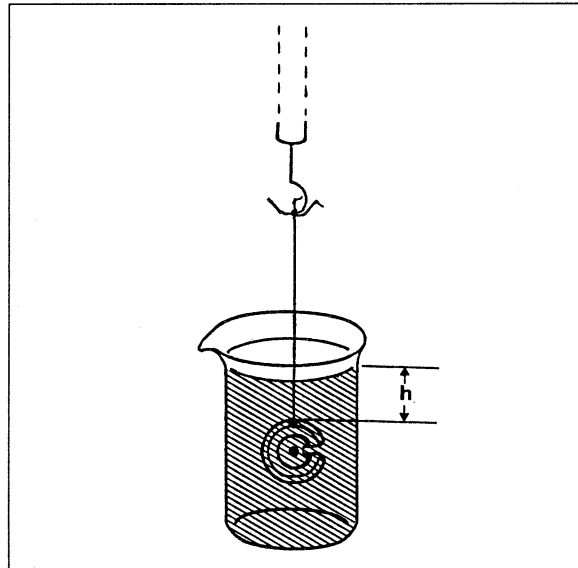

Fig. 2 Depth of immersion of the weight.
9. Lower the weight 1 cm below the surface of the water. Use the tape measure to measure the depth of immersion (fig. 2). Measure the immersed weight F_2 and enter the result in table 1.